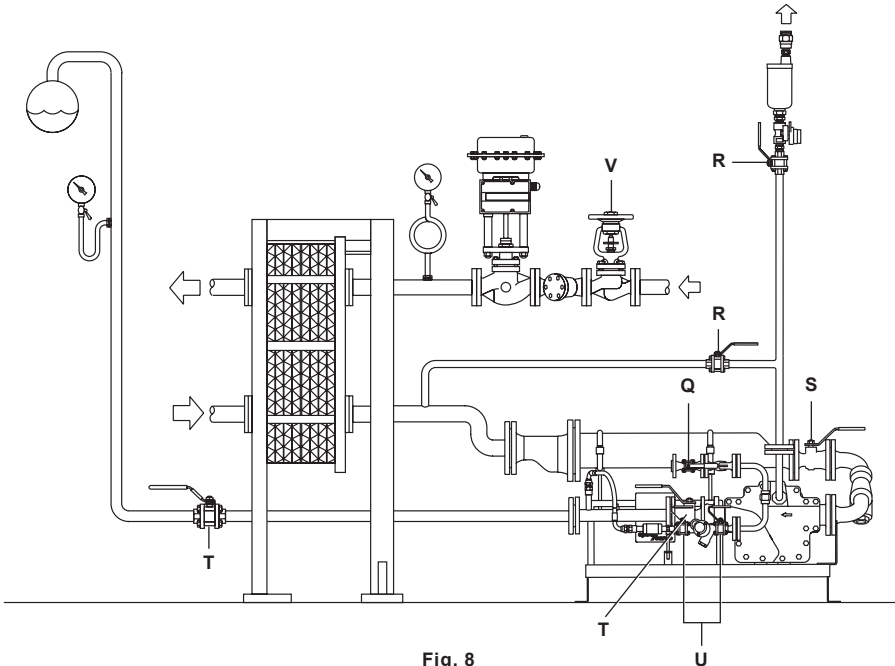

Fig. 8
- Is the exhaust balance line connected to the outlet of the equipment being drained and is it free from obstruction (refer to the installation diagram Figure 8, page 14)?